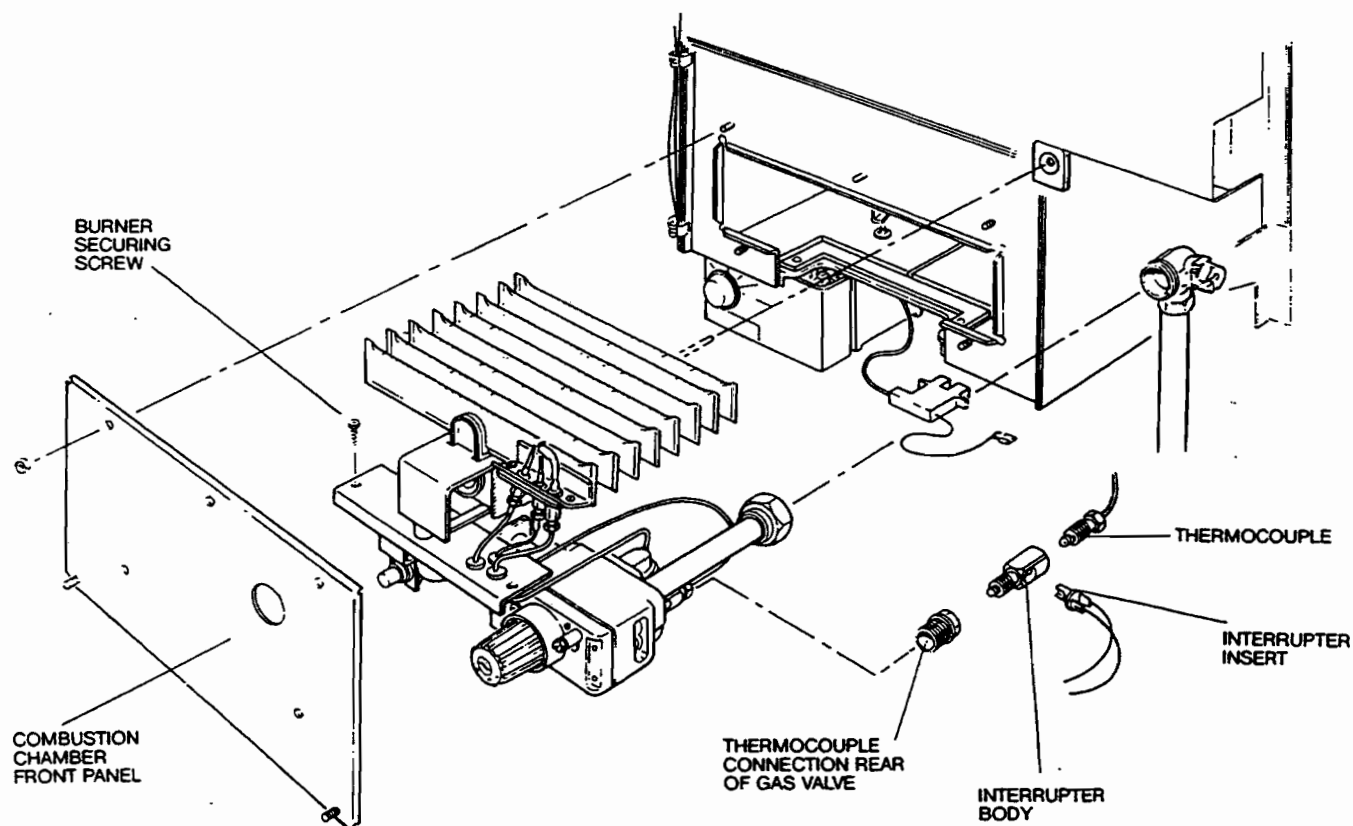

FIG. 25. BURNER AND GAS CONTROL ASSEMBLY
- B Remove the 5 nuts securing the combustion chamber front panel and remove panel. See FIG. 25. Inspect the rope seal on the front panel and replace if damaged.
Refer to FIG. 25 and carry out the following:
- A Refit the burner and gas control valve assembly into the boiler ensuring that the locating pin on the rear of the burner engages correctly into the rear support bracket. Ensure also that the sealing gasket beneath the burner mounting flange is correctly positioned and a good seal obtained. Secure the assembly with two screws. See FIG. 25.